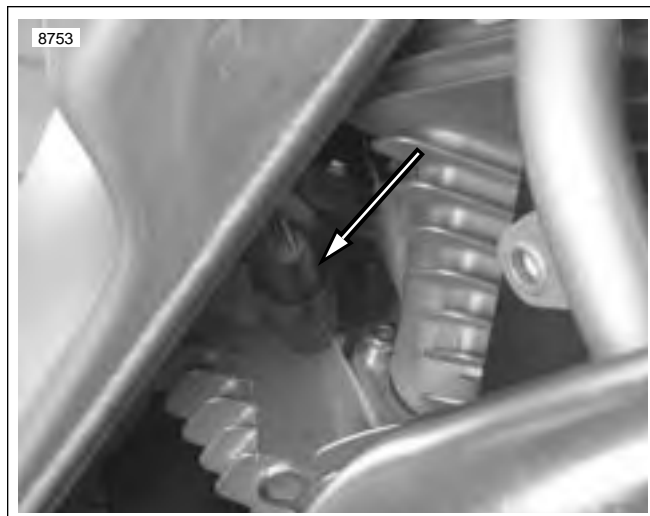

Figure 4-87. Throttle Position Sensor Location
2. See Figure 4-87. Disconnect throttle position sensor connector [88].